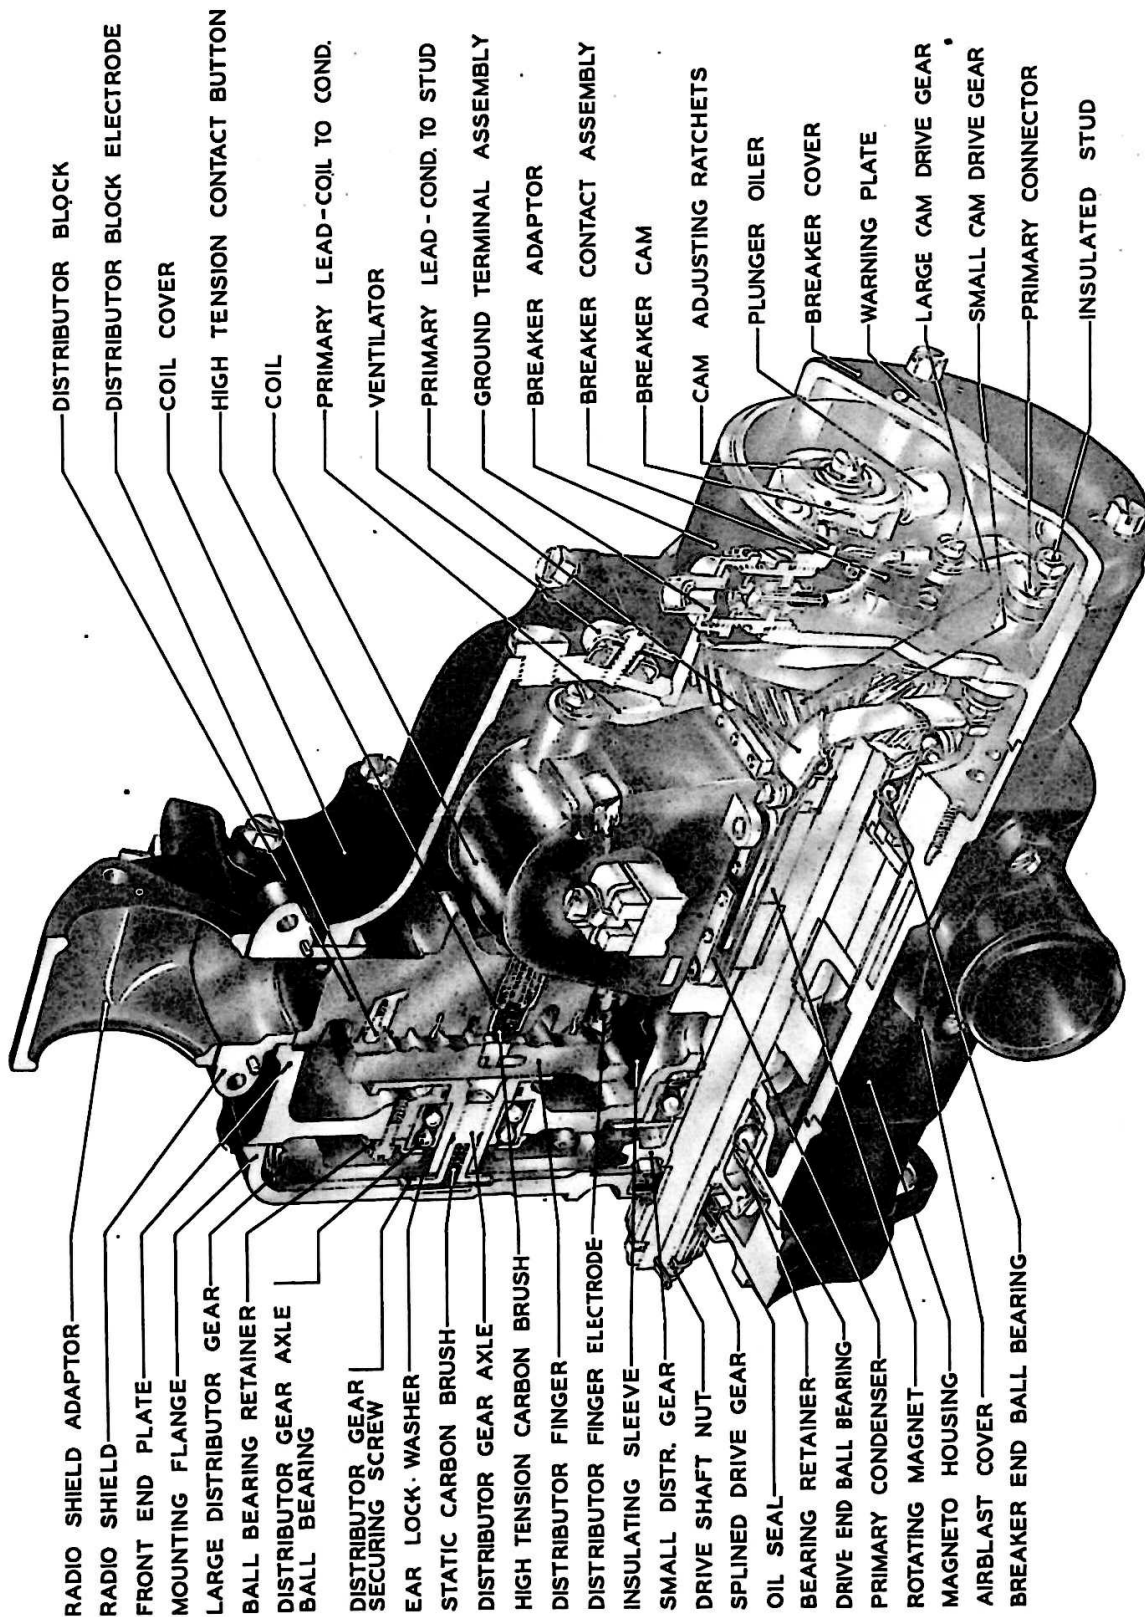

Figure 2 - Three Quarter Cutaway
2. DETAILED DESCRIPTION. (SEE FIGURE 2.)